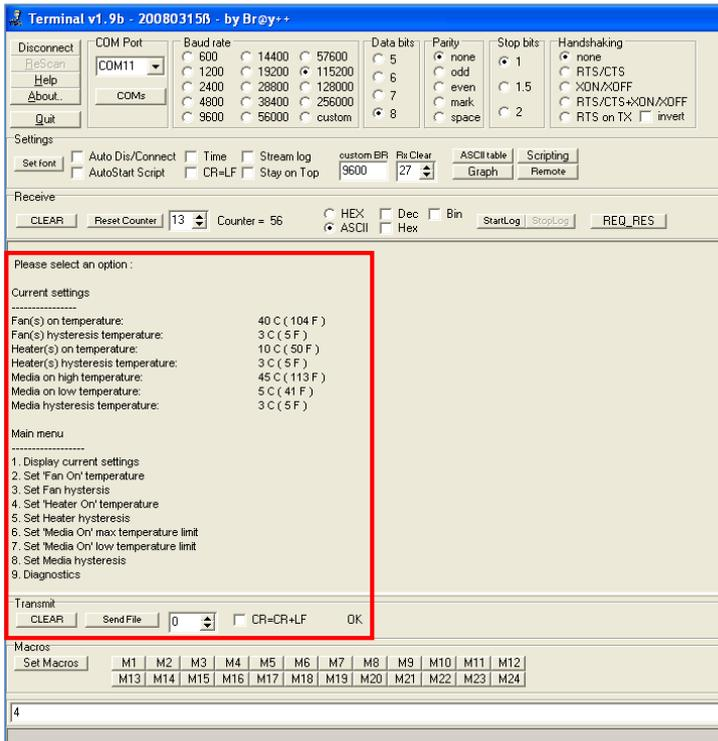

Figure 6
Step 12: The settings for each component can then be changed by selecting the appropriate option from the menu in figure 6.